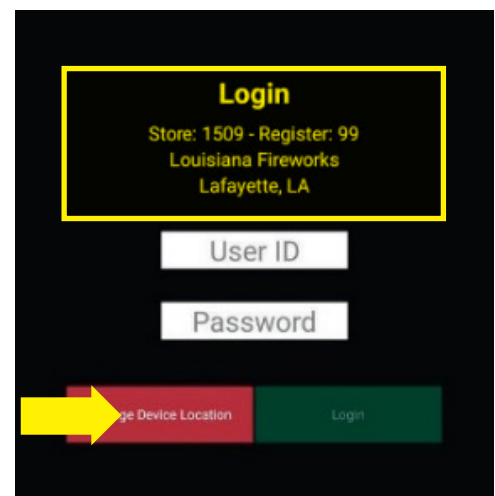

Figure 22
7. Select Change Device Location if your location information does not appear on the screen (Figure 22).